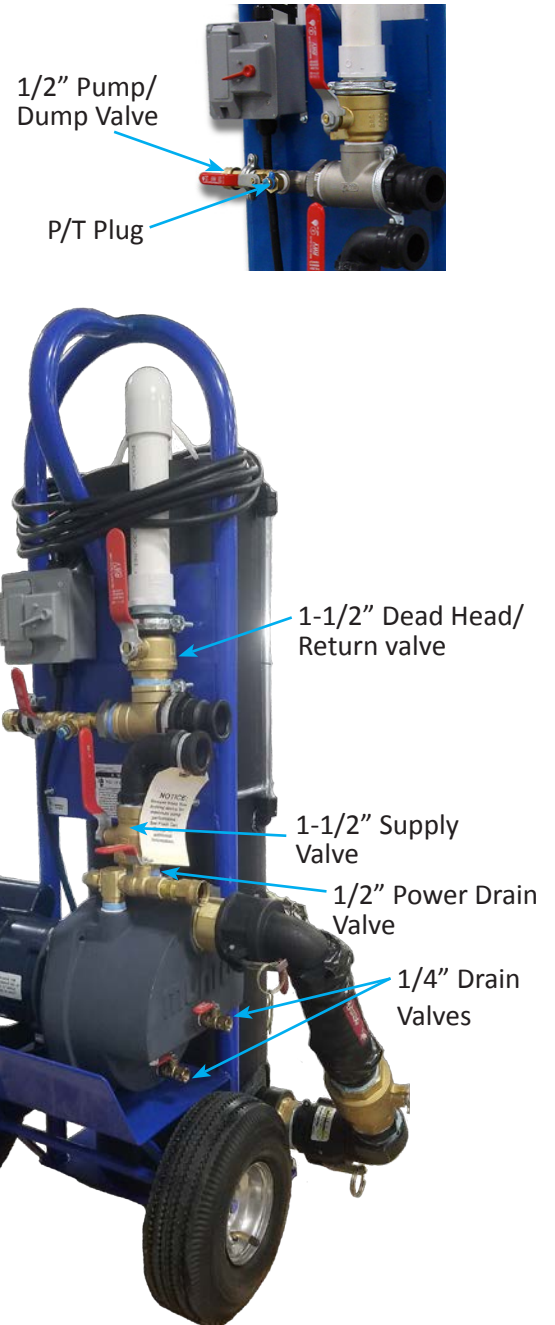

Figure 20: Flush Cart Valves in adding antifreeze steps
2. Attach a hose to the 1/2” pump & dump valve (Figure 20). Direct the opposite end of the hose to an appropriate drain.
4. Open the 1-1/2” supply valve (Figure 20).
5. Close the 1-1/2” dead head valve (Figure 20). This prevents fluid from returning to the tank.
6. Slightly open the 1/2” pump & dump valve (Figure 20).
11. Close the 1/2" pump and dump valve (Figure 20).
12. Open the 1-1/2" supply valve (Figure 20) and energize the pump to mix the antifreeze with the water in the loop.